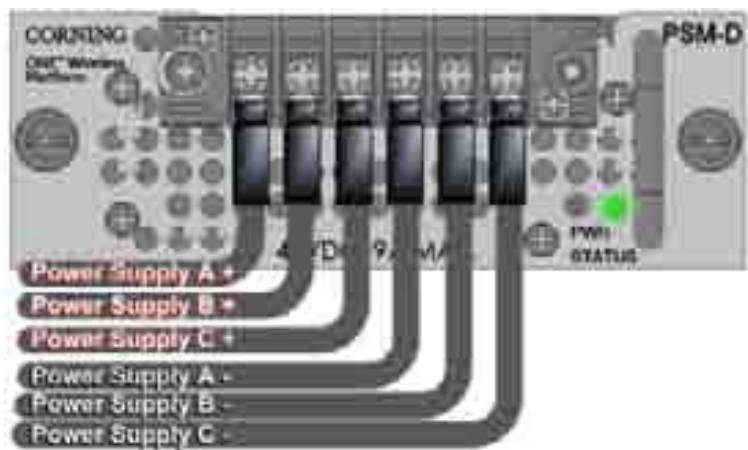

Figure 5-19. Connected DC Wire Pairs and Green Power LED
- 1. Verify that the Power Status LED on each PSM shows green. See Figure 5-16 (PSM-AC) and Figure 5-19 (PSM-DC).